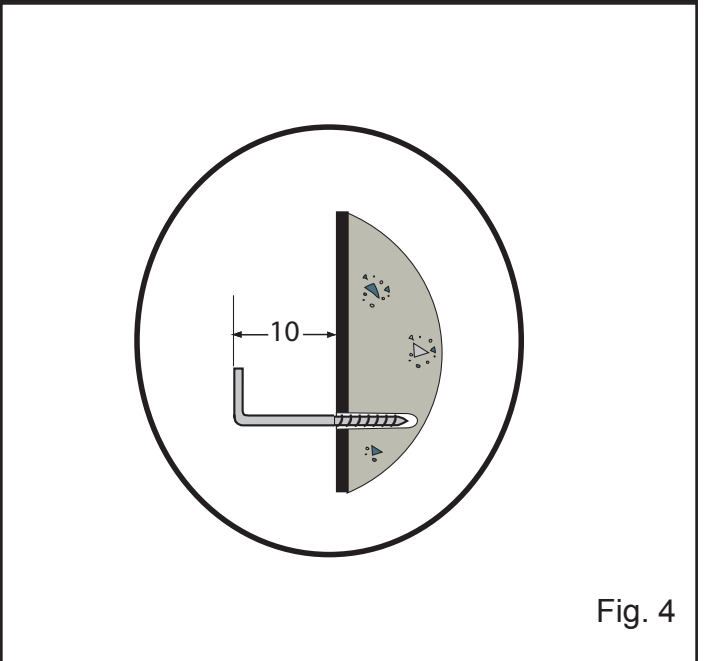

Fig. 4
3. Screw hook into the rawl plug to the depth as shown in Fig. 4.